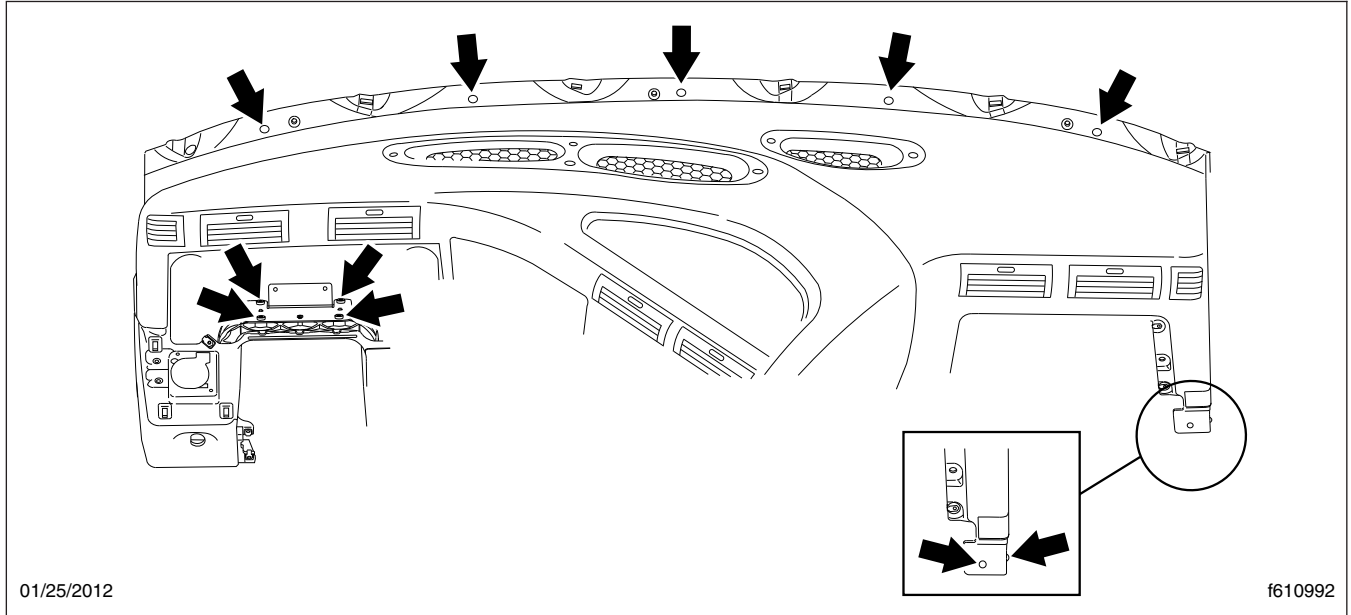

Fig. 6, Dash Fasteners
14. Raise the dash enough to provide clearance, and suspend it securely out of the way. See Fig. 6.